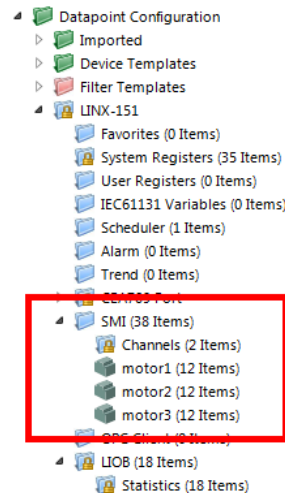

Figure 175: Data Point Manager with SMI device folders.
- The folder list (Figure 175),